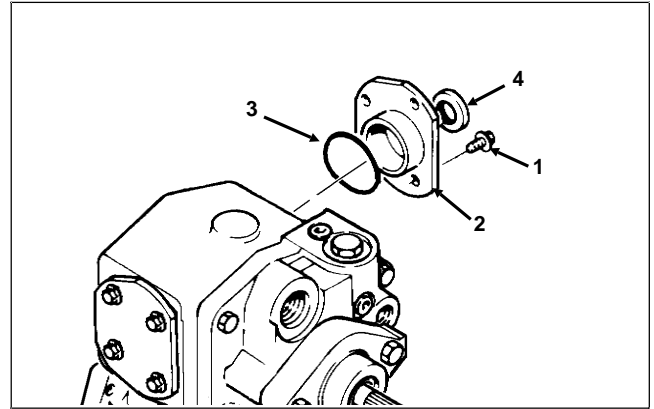

Figure 31
3. Remove hex tapping screws retaining trunnion seal cover to transmission housing (Fig. 31).